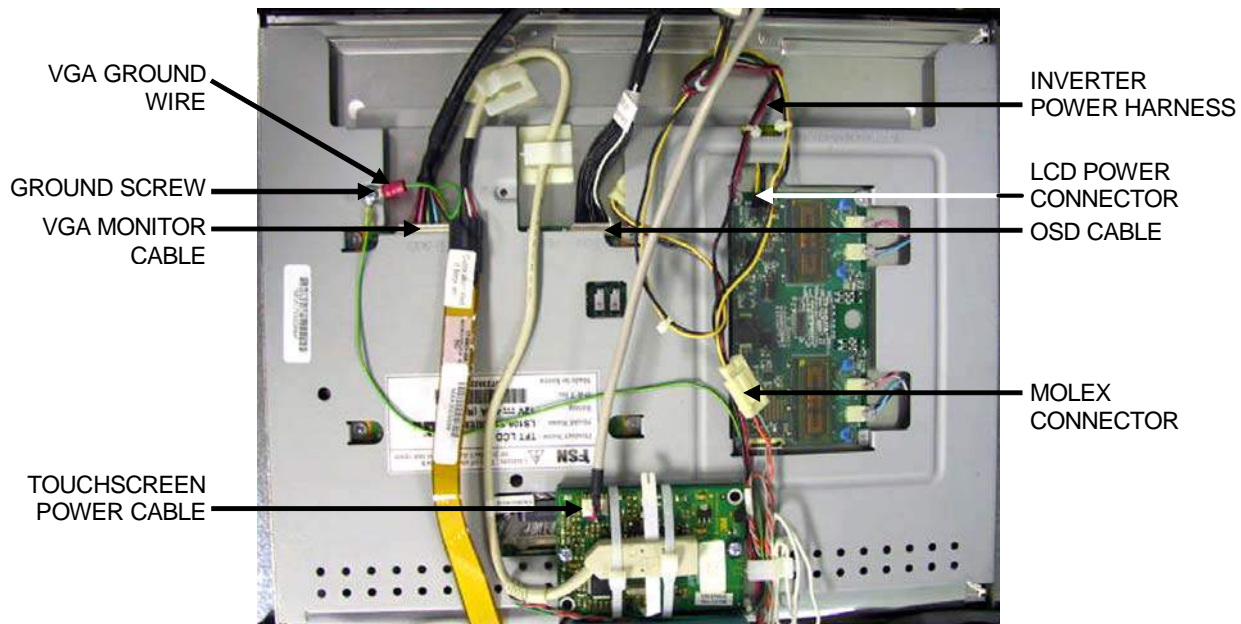
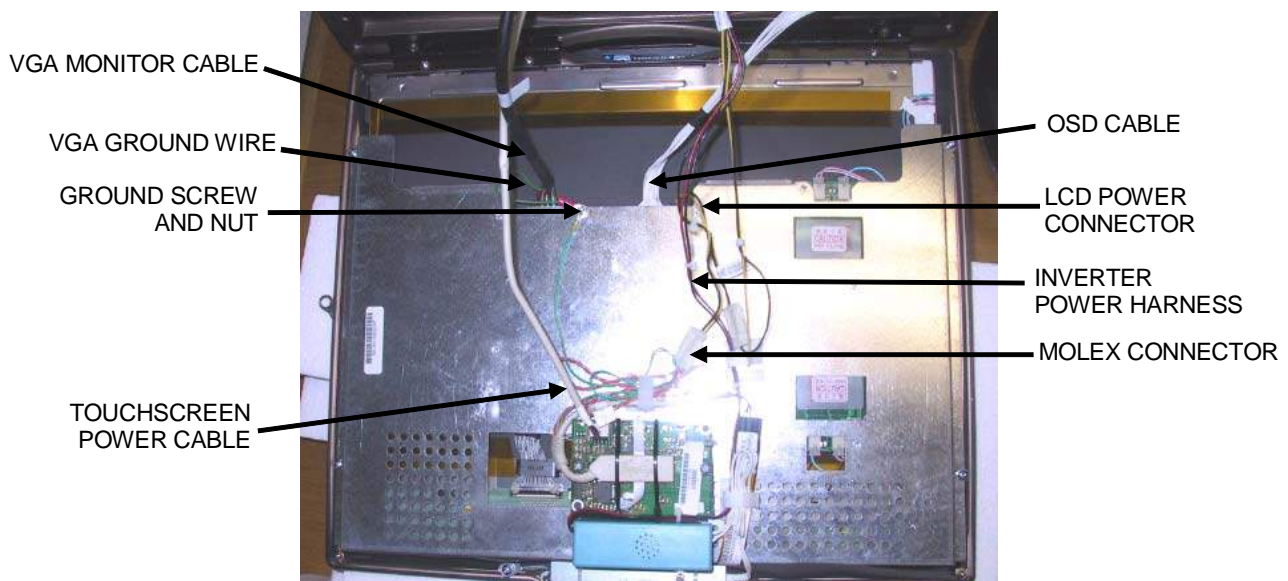

FIGURE 6 - REAR VIEW OF 17" MONITOR
FIGURE 7 - REAR VIEW OF 19" MONITOR
9. There are four cables that run from the rear of the system and connect to the monitor. These cables will need to be disconnected in order to remove the monitor assembly from the system. So, on the rear of the monitor, disconnect the VGA monitor cable, the 14-pin OSD cable, and the touchscreen power cable. Additionally, the LCD power connector, Molex connector, and the inverter power harness will all connect to the same 6-pin connector (coming from the rear of the unit). There is no need to disconnect all of these cables separately at the monitor; simply disconnect them all by disconnecting this 6-pin connector. Remove the screw or nut securing the VGA and touchscreen controller ground wires to the monitor. *Note: On the Aurora Widescreen this screw/nut may secure only the VGA ground wire. Refer to Figure 6 for 17" games, and Figure 7 for 19" and Widescreen games.*
37. Reconnect all cables running to the monitor: the VGA monitor cable; the 14-pin OSD cable; the touchscreen power cable; and the 6-pin connector that connects to the LCD power connector, Molex connector, and power harness. Additionally, fasten the VGA and touchscreen controller ground wires to the monitor with the screw you removed earlier (17" units), or with the nut that attaches to the ground screw on the rear of the monitor (19" & Widescreen units). *NOTE: On the Aurora Widescreen the VGA ground cable may be the only cable secured in this fashion.* See Figures 6 and 7 for details.